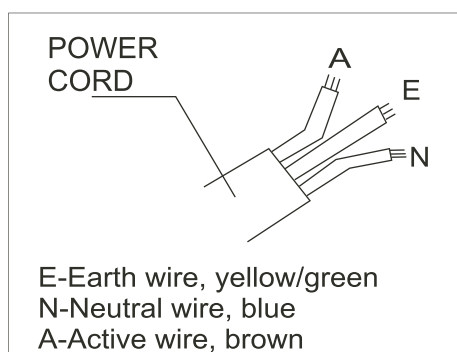

Fig.1
1. Power cord conductors are distinguished according to color as follows (see Fig.1).